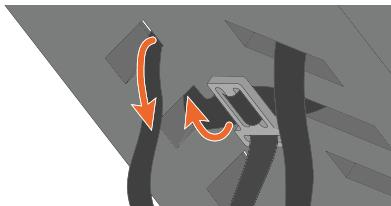

Figure 11 - Putting shoulder straps through backrest of the toddler seat.
- 12.** Take this combination and thread it through the rear of the toddler seat as shown in figure 11.